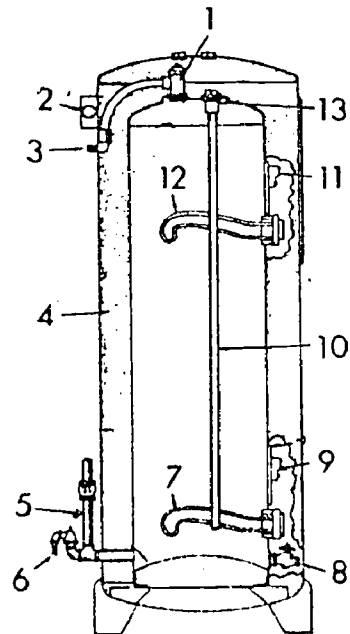

Figure 4
1. In Fig. 4 locate by number the exact location of the magnesium rod in the electric water heater.
2. In Fig. 4 which number would locate the cold water inlet found on an electric water heater?
3. In the illustration of an electric water heater (Fig. 4) locate by number the location of the single-throw thermostat.
4. In the illustration of an electric water heater (Fig. 4) locate by number the location of the junction box.
5. In the illustration of an electric water heater (Fig. 4) locate by number the location of the double-throw thermostat.
6. In the illustration (Fig. 4) of an electric heater locate by number the hot water outlet.
7. In the illustration (Fig. 4) of an electric heater locate by number the male-female plug.
8. In the illustration (Fig. 4) of an electric heater locate by number the upper heating unit.
9. In the illustration (Fig. 4) of an electric water heater, what number indicates the lower heating unit?